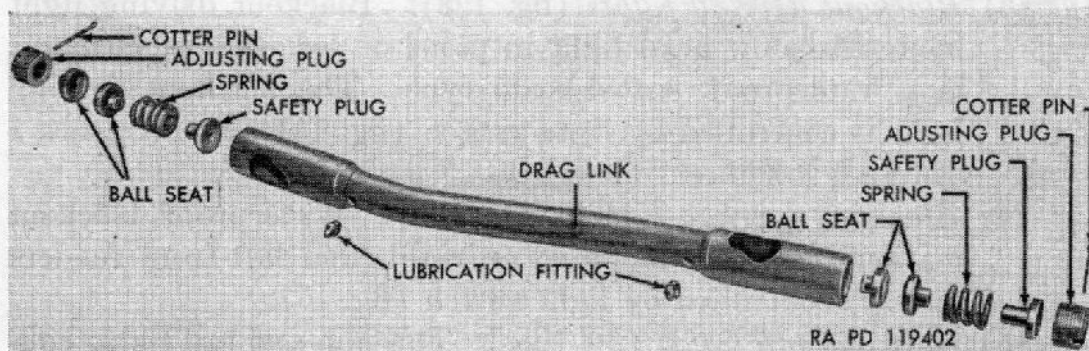

Figure 120. Drag link—exploded view.
e. DRAG LINK (fig. 120). The drag link assembly consists of a tubular member connecting pitman arm to steering arm on front axle. Spring-loaded ball seats in each end of link are adjustable and engage stud balls in pitman arm and in steering arm in axle.
(fig. 120)
- (1) Note that stud-ball opening is closer to end of drag link at steering-arm end than at pitman-arm end, and that order of installation of parts is different for each end. Check order of parts shown in figure 120.
- (2) Connect drag link to steering arm. With inner ball seat in position (notch in ball seat toward opening), place drag link over steering-arm ball, and install outer ball seat and adjusting plug.
- (3) Turn steering wheel to extreme left, and turn front wheels to left against stop screws. Hold drag link to pitman arm. Pitman-arm ball should be one-half inch ahead of drag-link-ball-seat position. Turn steering wheel and front wheels, to right, to their limits. Pitman-arm ball should be one-half inch behind drag-link ball seat.
- (4) If overall travel of pitman arm is less than one-half inch each way, check for following conditions: